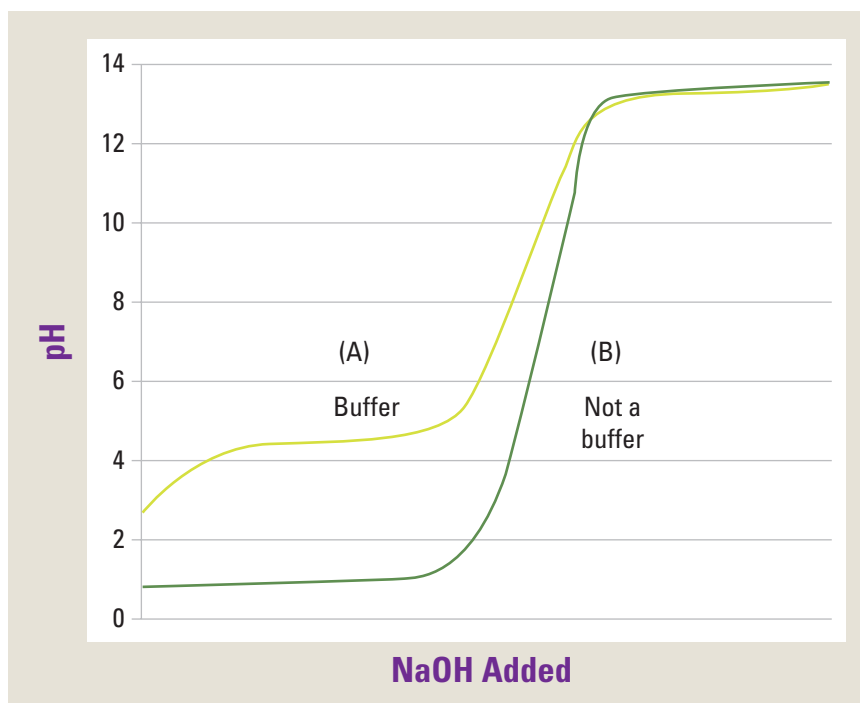

Figure 2. Titration curves
3. Which titration curve (see Figure 2) represents the titration of a strong acid with a strong base? Which curve represents the titration of a weak acid with a strong base? Do either of these curves display a buffer effect? Explain.
4. What is meant by the term "equivalence point?" What are the approximate equivalence points for curves A and B in Figure 2?
6. Identify on the titration curve (Figure 2, curve A) the place where you could estimate the pK_a of the acid. What is your best estimate?